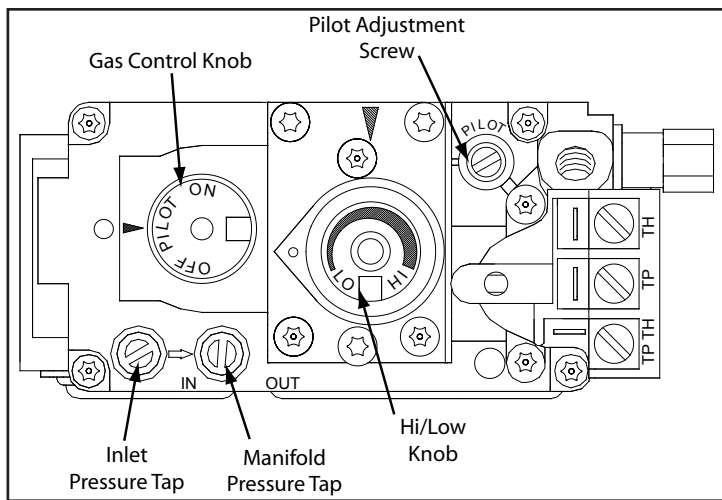

Figure 30: Valve Details.
The pressure taps are located on the front side of the valve (see Figure 30).
1. The adjustment screw can be reached through the front of the unit using a 10 inch flat head screw driver (see Figure 30 for location on valve).